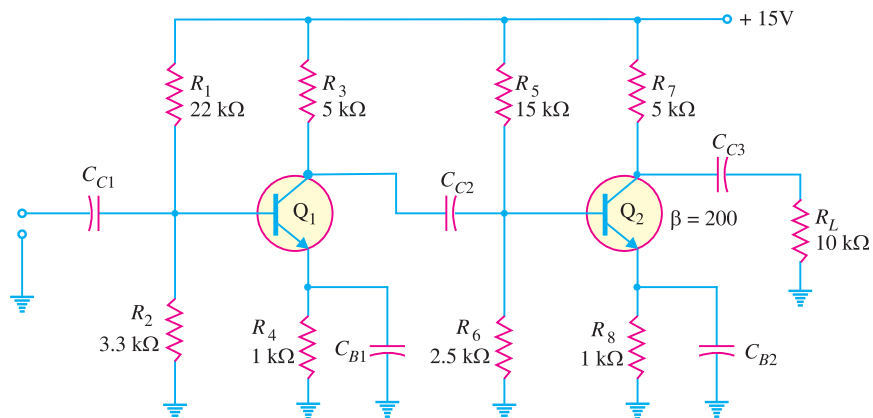

Fig. 10.48
14. Determine the voltage gain for the first stage in Fig. 10.48. [53.03]
15. If the value of β for the second stage in Fig. 10.48 is increased to 280, determine the voltage gain of the first amplifier stage. [58.08]